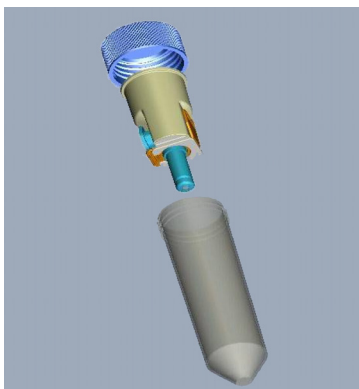

Fig. 2: Unscrew the 50 ml polypropylene tube and remove the High Pure Extender Assembly from the 50 ml polypropylene tube.
After the first centrifugation step, the sample has passed through the High Pure Extender Assembly and is collected at the bottom of the 50 ml polypropylene tube. Nucleic acids are bound to the silica fleece at the bottom of the High Pure filter tube. For further processing remove the High Pure Extender Assembly from the 50 ml polypropylene tube. Discard the tube containing the flow-through. Remove the High Pure Filter Tube from the High Pure Extender Assembly (see Figures 2 to 6).
- ⚠ We do not recommend the use of fixed-angle rotors in combination with the High Pure Extender Assembly. However, if you decide to use a centrifuge with fixed-angle rotors, do not centrifuge High Pure Extender Assembly above $3,000 \times g$. The use of fixed-angle rotors results in incomplete flow of the liquid through the Assembly. The remaining sample solution therefore stays within the High Pure spin column filter tube. Remove this remaining liquid by an additional spin of the High Pure filter tube in a bench-top centrifuge before the first washing step. For this additional spin remove the High Pure spin column from the High Pure Extender Assembly (according to Figure 2 to 6).